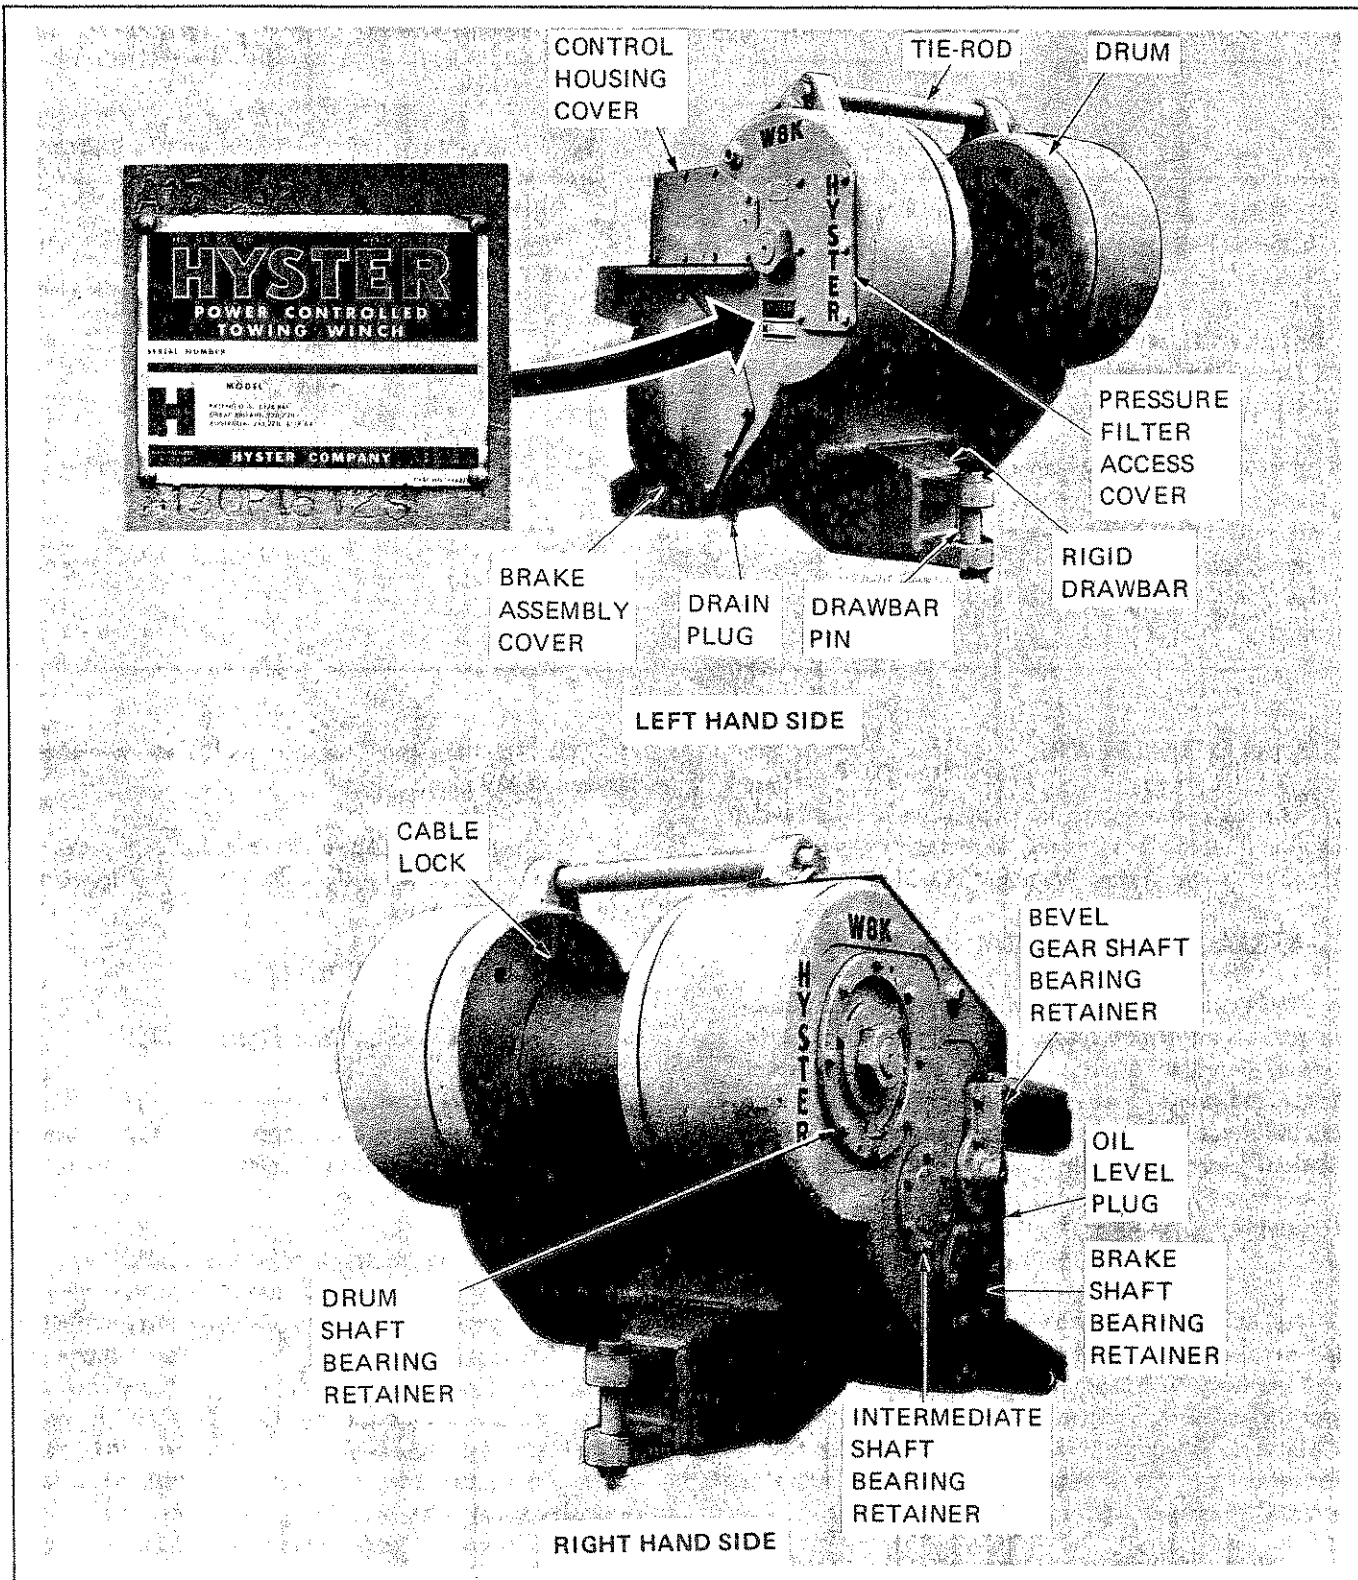

FIGURE 1-1. W8K TOWING WINCH
1-6. The unit nameplate is located on the left-hand (LH) side of the winch frame, as shown in Figure 1-1, and contains the Serial Number and Model Number.
1-7. SERIAL NUMBER DATA. (See Figure 1-1.)
1-10. Towing Winch. (See Figure 1-1.)